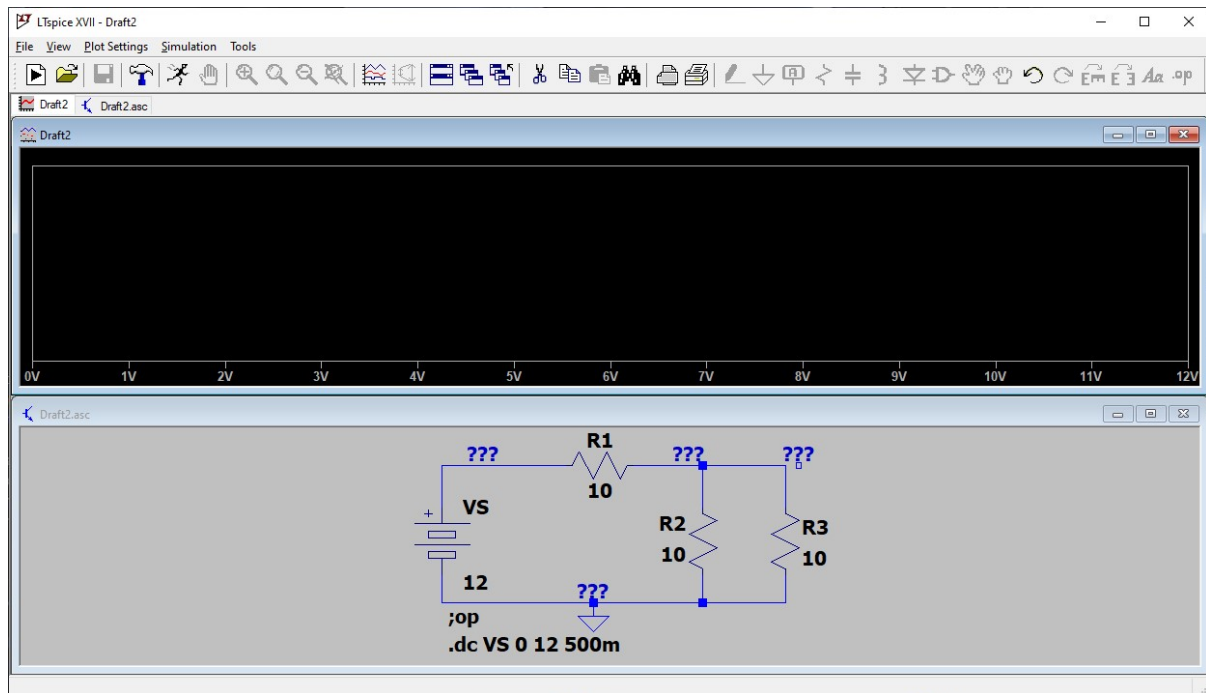
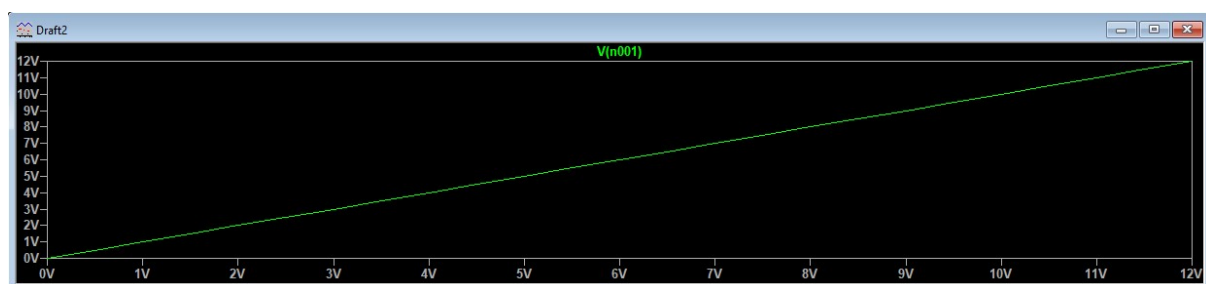

Figure 47: LTSpice window after DC sweep simulation.
Figure 48: LTSpice graph window with VS measurement (node n001).
4. Click on the *Run* button (Figure 36) to run the DC sweep simulation. A blank graph window will open in the *LTspice* window as shown in Figure 47.
- To add a trace (measurement) to the graph, you need to click on the node you want to measure. Click on the node at the positive side of VS as indicated by the red cross in Figure 47. A trace representing the voltage of VS will appear in the graph window as shown in Figure 48.
Tip: The names of the traces are shown at the top of the graph window in the colour of the trace. In Figure 48, the trace is called $V(n001)$, where $N001$ is the node name. In this circuit, the voltage of node $N001$ is the same as the voltage of VS .